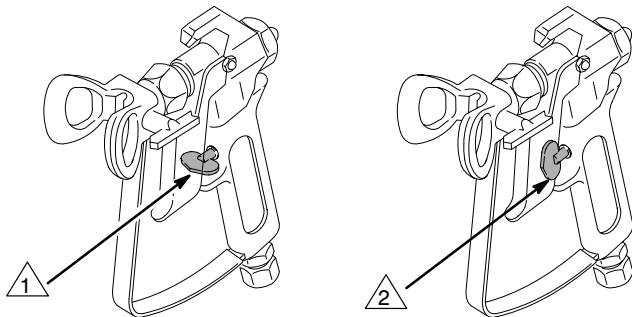

Fig. 3 0137
2. **Close the pressure drain valve (50).**
4. **Put the suction tube (42) into the paint container.**
5. **Lower the pressure setting** by turning the pressure adjusting knob (B) fully counterclockwise.
6. **Disengage the gun safety latch.** See Fig 3.
- g. Release the trigger and engage the gun safety latch. See Fig 3.